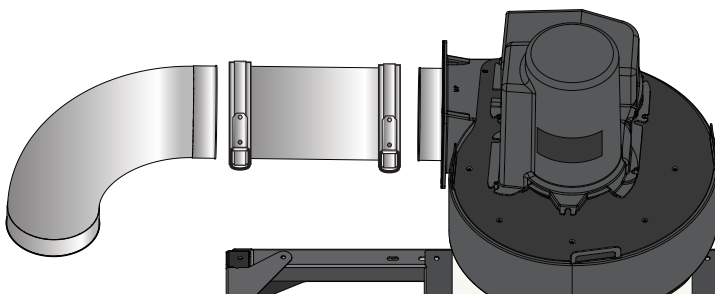

FIG. 8a
Open two 8" Duct Clamps (G) and slip them over the Plenum Extension (F) [FIG. 8a]. Mate the Plenum Extension to the 8" Outlet Adapter (E) then the Elbow (H) and close the Clamps over the rolled ends.